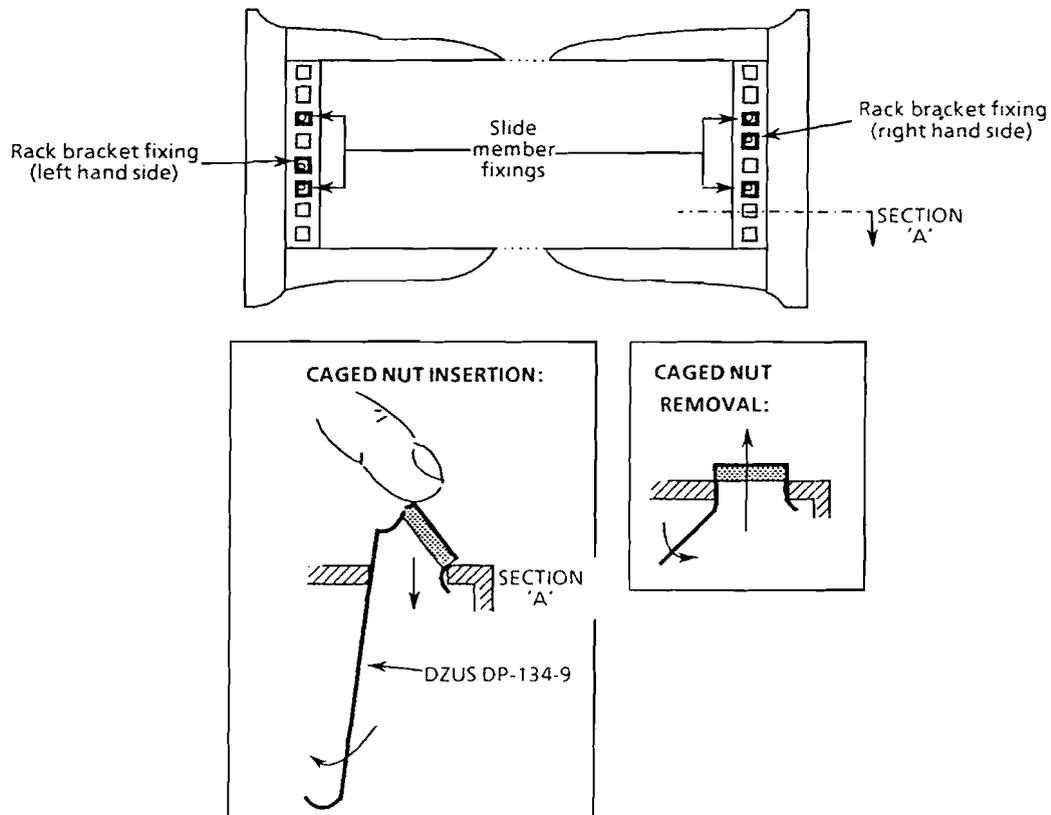

Fig. 2.6 Caged nut insertion in Imrak Series 80 (and similar) cabinets
- 4.3.4 Fit the M6 caged nuts for outer slide member and rack slide member and rack mounting bracket fixing into the rack, in the positions shown in Fig. 2.6 How to insert and remove caged nuts is shown in the figure detail.